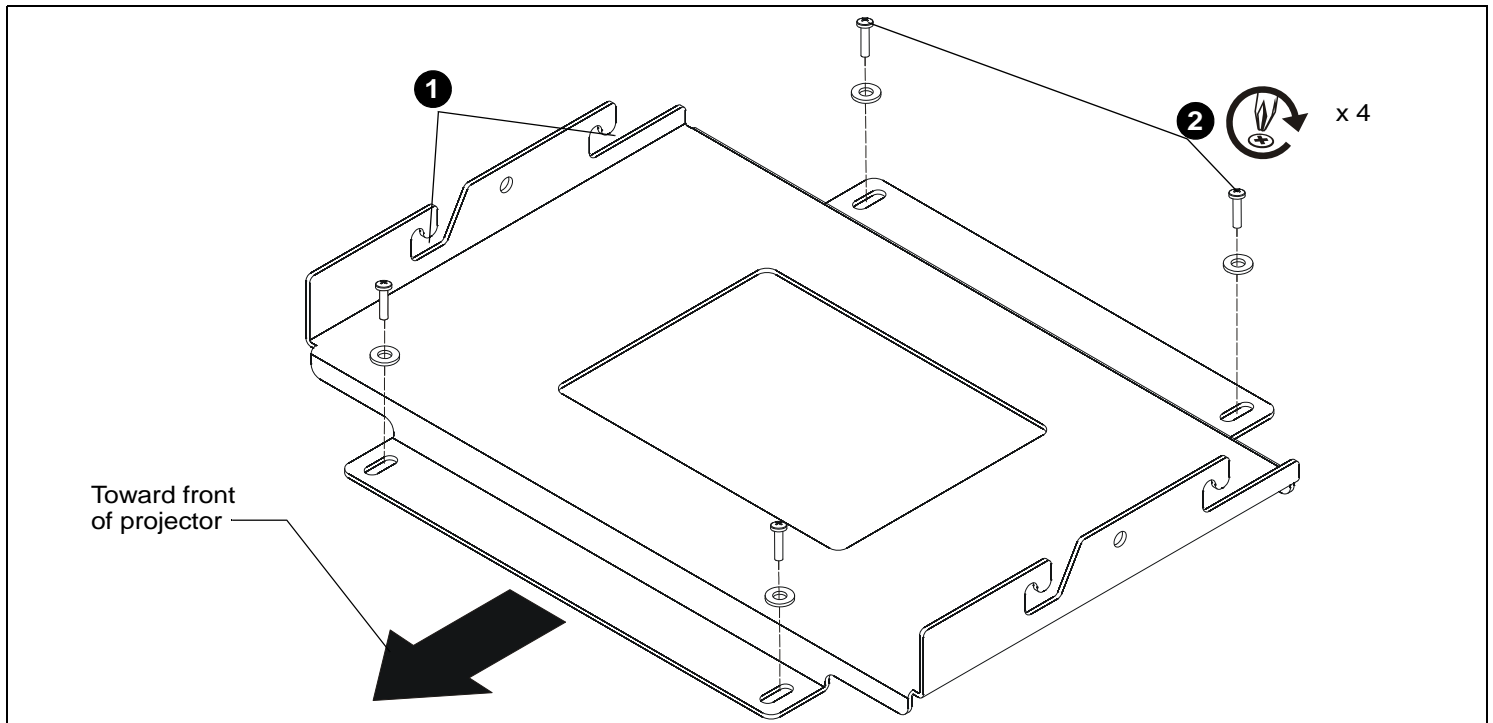

Figure 1:
1. Place custom HB bracket on underside of the projector and line up the four screw holes on the bracket with the four corresponding holes on the projector. Ensure that the side hooks open towards back of the projector. (See Figure 1)
2. Attach HB bracket to projector using four M6-1.00 x 16mm Phillips machine screws through washers and spacers into projector. Install each screw partially to make sure all screws are aligned correctly before tightening the screws to the bracket. (See Figure 1)